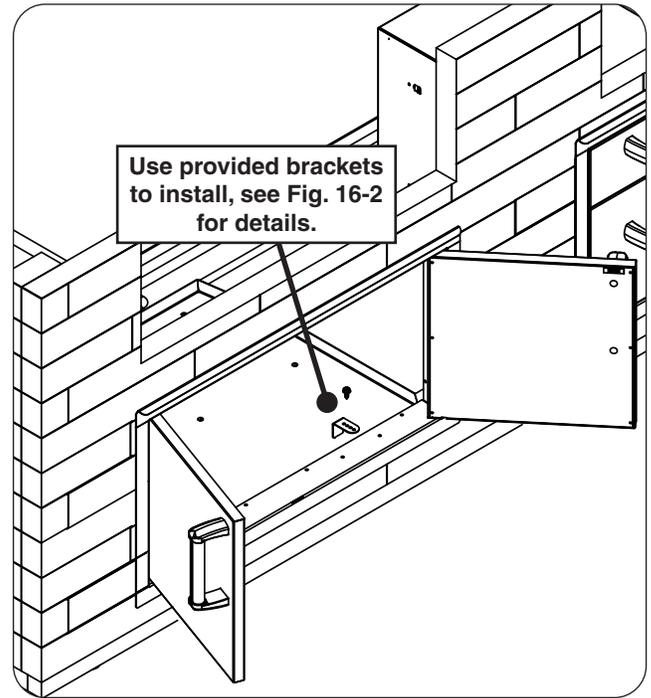
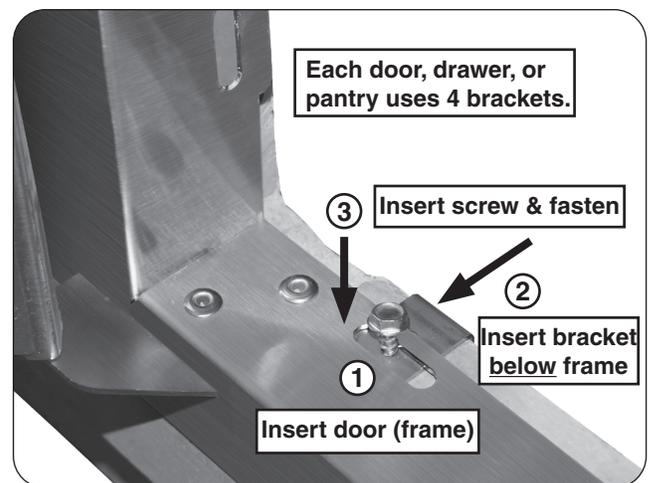
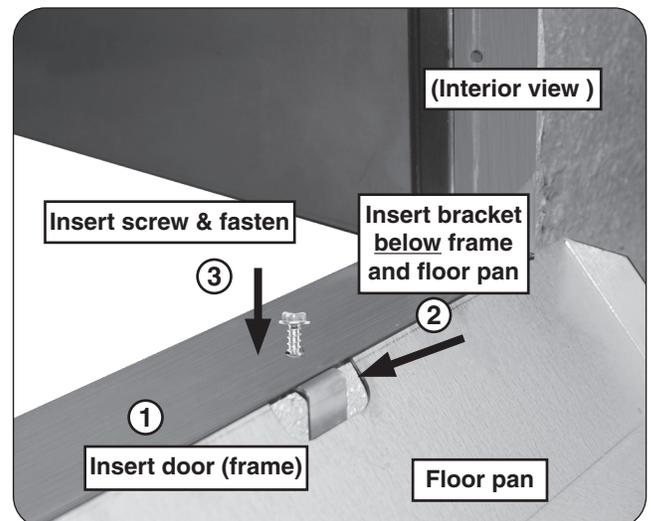

Fig. 16-1 Door/drawer/pantry install detail
Fig. 16-2 Door/drawer/pantry install detail
Fig. 16-3 Door/floor pan install detail
1. Insert your unit completely into the appropriate opening. Ensure it is flush against the exterior wall (see Fig. 16-1, and Fig. 16-2 or Fig. 16-3, step 1).
2. The unit will have 2 oblong cutouts (or round holes) on both the top and bottom of its frame. Reach from within the island and insert a bracket where a cutout exists, **below the frame**. See Fig. 16-2 or Fig. 16-3, step 2.
**Note:** When installing the double door ensure the bracket is inserted **below the frame AND floor pan** (see Fig 16-3).
3. While squeezing the rear of the bracket and the front of the frame **firmly** against the concrete wall, insert a hex screw and tighten with the power drill and 5/16" hex driver (see Fig. 16-2 or Fig. 16-3, step 3). **DO NOT OVERTIGHTEN.**